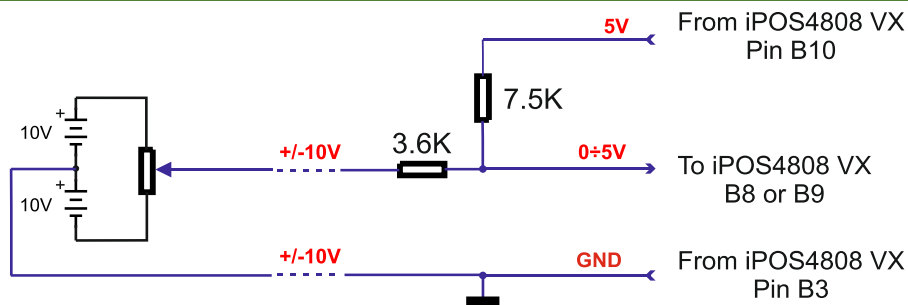

Figure 3.14. +/-10V to 0-5V adapter
2. Default input range for analog inputs is 0+5 V for REF and FBDK. For a +/-10 V range, see Figure 3.14.